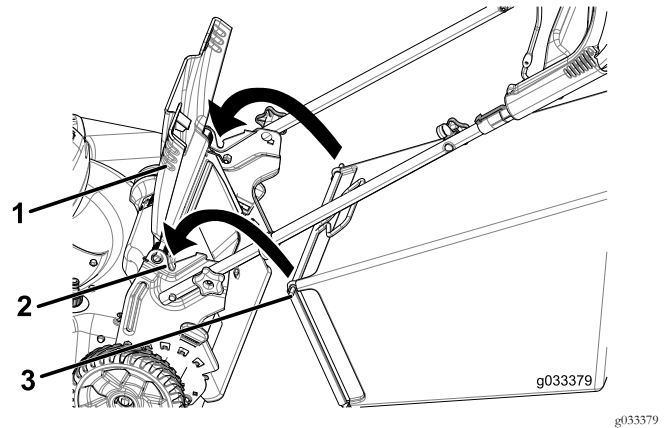

Figure 25
1. Raise and hold up the rear door (Figure 25).
2. Install the grass bag, ensuring that the pins on the bag rest in the notches in the handle brackets (Figure 25).